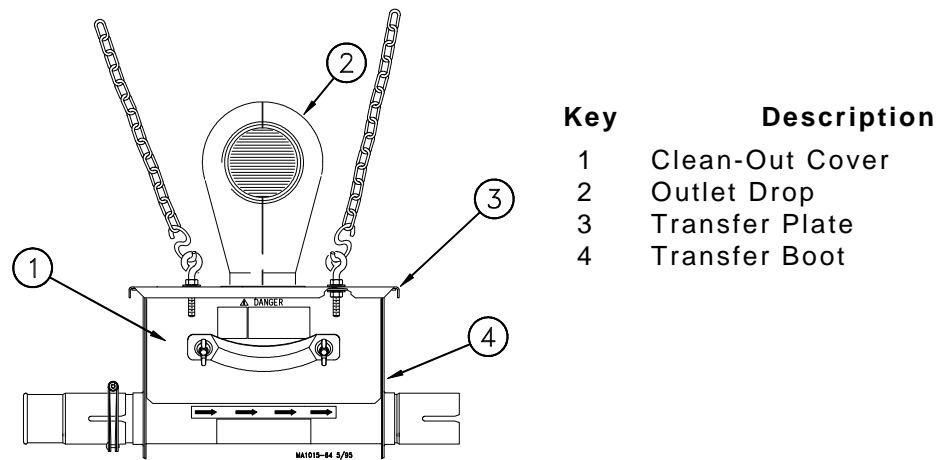

Figure 3. Transfer Boot Installation (w/o Prox. Boot Switch).
3. Assemble a Transfer Plate to the top of each of the remaining Transfer Boots, using the 1/4-20 eye bolts supplied. See Figure 3.